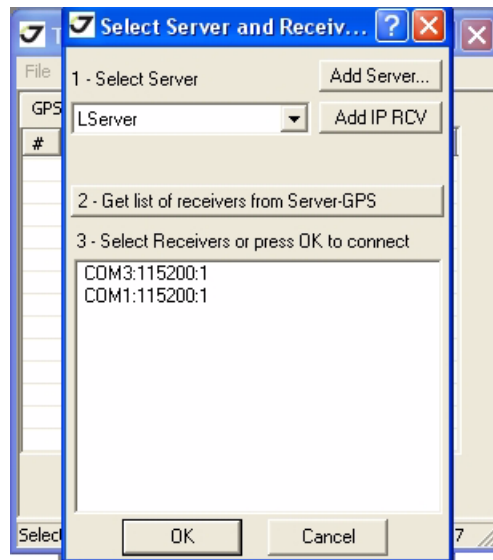

Figure 3-1. Connection Parameters
2. Start TriVU. Select the COM port and click Ok (Figure 3-1).